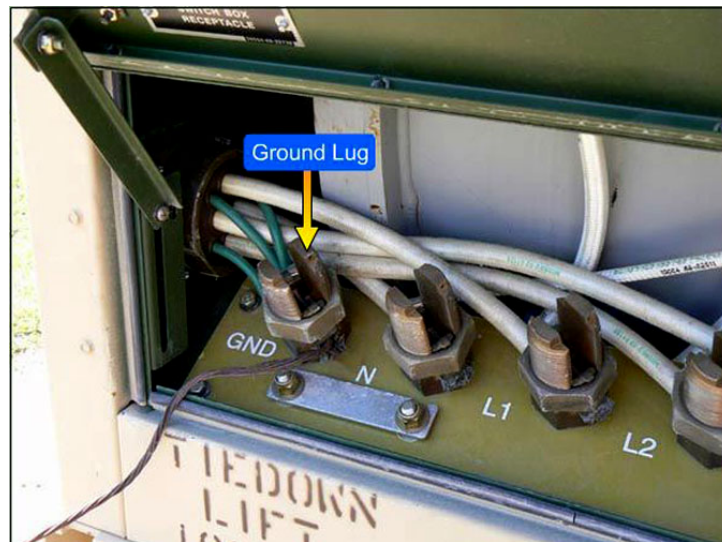

Figure 4-2. Ground stud.
1. Insert the ground cable (fig. 4-2) into the slot on the ground stud attached to the generator and tighten the nut.